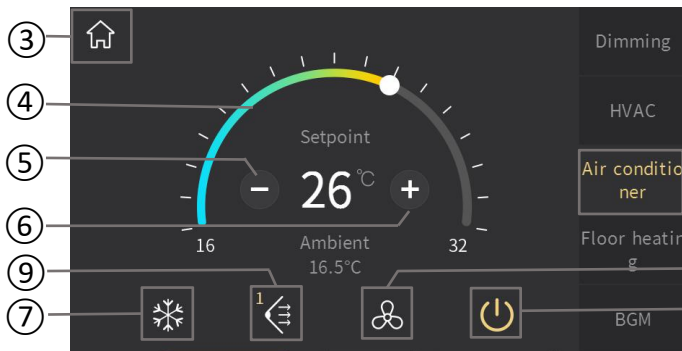
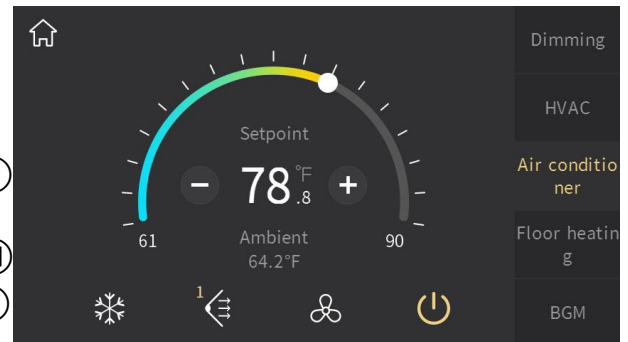
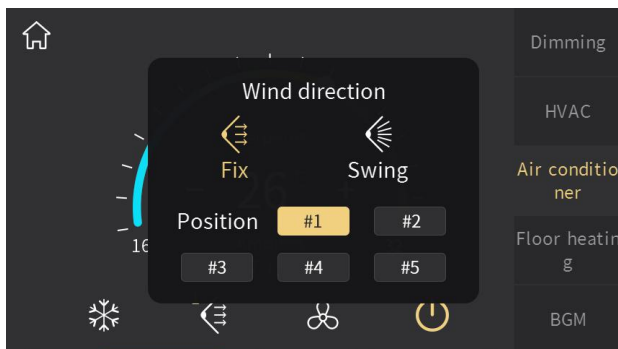

Fig.2.4.1
Fig.2.4.2
Fig.2.4.5
- ② **This area displays the page description identification of Air-Conditioner control, user can define the description through ETS;**
- ③ **Return to Home page by touching this icon;**
- ④ **Adjust the setting temperature by sliding this ring slider;**
- ⑤ **The function of this icon is to decrease the temperature;**
- ⑥ **The function of this icon is to increase the temperature.**
Adjusting the temperature by sliding the ring slider④ or touching the icon⑤ and icon⑥. For each touching of icon⑤ and icon⑥, the adjustment range is 1.0 degrees. When the setting temperature unit is set to degrees Celsius(°C), as shown in Fig.2.4.1, adjustment range of the setting temperature is 16~32°C by default; when the setting temperature unit is set to Fahrenheit(°F), the current temperature value will automatically convert to Fahrenheit value, as shown in Fig.2.4.2, adjustment range of the setting temperature is 61~90°F by default. The temperature adjustment range can be modified through parameter setting.
⑧ **This icon indicates the uncertain status of mode;**
⑨ **Enter to the fan direction setting by touching this icon, and will pop up a sub-window shown as Fig.2.4.5;**
Under fixed fan direction, select one of the 5 options (#1,#2,#3,#4,#5) for fan direction position, for instance, select #1, interface as shown in Fig.2.4.5, then touch the area outside the sub-window to return the previous level function page, the position selected will be shown on the fan direction icon of the function page, as shown in Fig.2.4.1. For swing fan direction, because fan direction change all the time, there would be no fixed position, only display swing fan direction icon on the interface.
Fan speed adjustment of fan direction set to be disable or enable by parameter configuration. When disable, there will be no fan speed item shown on the interface, as shown in Fig.2.4.1; when enable, fan direction can be adjusted.